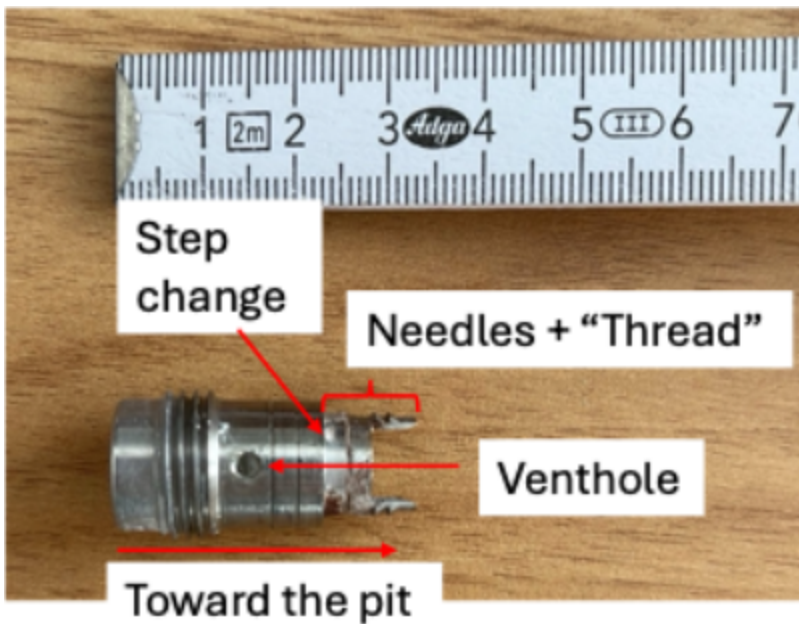

Figure 1. Installation sleeve with marked step change and venthole.
1. Measure bark depth using either a bark depth gauge or another tool (such as a screwdriver or chisel). Depending on the species this is crucial to ensure sensor installation into the xylem just below the cambium (i.e. high importance for ring-porous species). To ensure correct positioning, one needs to measure the depths of the “nails” plus the threaded part until the step change (see Figure 1) which needs to sit in the Xylem. Then measure from the step change point until the “venthole” (Fig. 1), if that length is larger than the bark depth one needs to take off exceeding bark using e.g. a Forstner drill bit (see step 2)